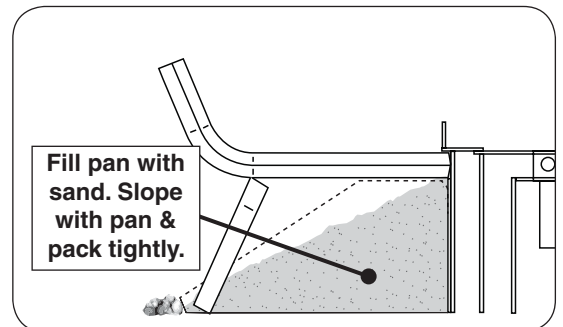

Fig. 9-3 Sand detail
2. **Slope the sand at the same angle as the burner pan and pack tightly.** This is important to ensure quiet lighting and even flame distribution. See Fig. 9-3.